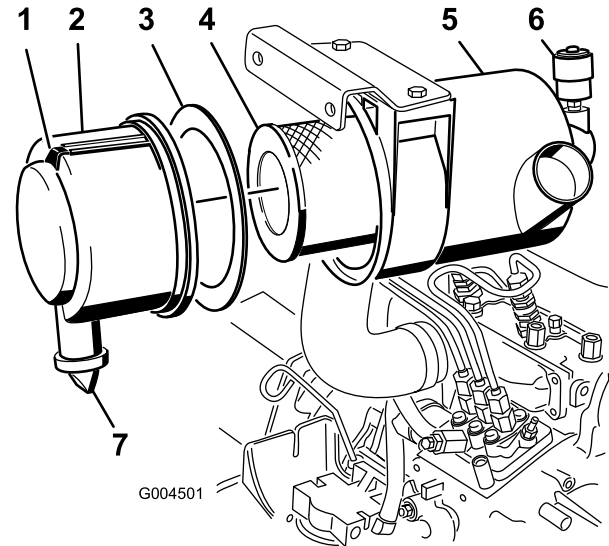

Figure 32
- Service the air cleaner filter when the air cleaner indicator (Figure 32) shows red or every 400 hours (more frequently in extremely dusty or dirty conditions). Do not over service the air filter.
1. Pull the latch outward and rotate the air cleaner cover counter-clockwise (Figure 32).
2. Remove the cover from the air cleaner body (Figure 32).
4. Remove and replace the primary filter (Figure 32).
6. Ensure that the foam gasket is in place in the cover and that it is not torn or damaged (Figure 32). If it is damaged, replace it.
- A. Remove the rubber outlet valve from the cover (Figure 32).
10. Reset the indicator (Figure 32) if showing red.